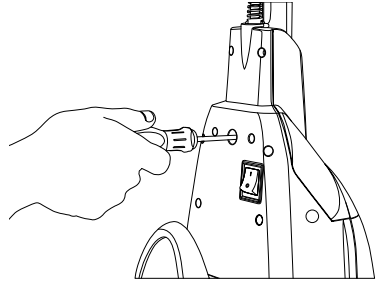

Fig. 1
1. After first removing the handle screw, insert handle into the hole on top of the vacuum cleaner. (Fig. 1)